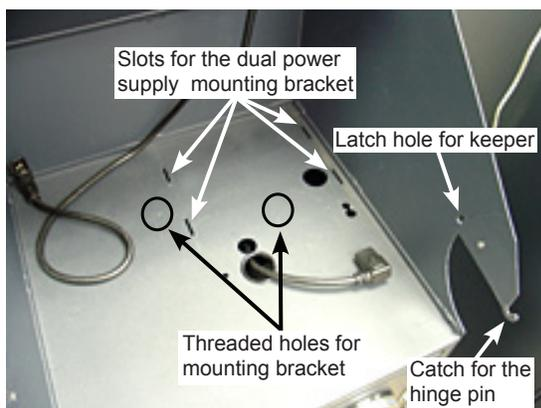

Figure 13. Mounting points for the dual power supply mounting bracket.
4. Refer to Figure 13. Set the adaptor bracket for the dual power supply in the back of the top enclosure with the base plate down and the angle sides facing forward. Make sure the four (4) locking tabs on the adaptor bracket slip into the four (4) open slots on the base of the top cabinet enclosure.
6. Refer to Figures 13 and 14. Secure the power supply adaptor bracket to the two (2) holes provided in the base of the top cabinet enclosure with the supplied mounting screws.